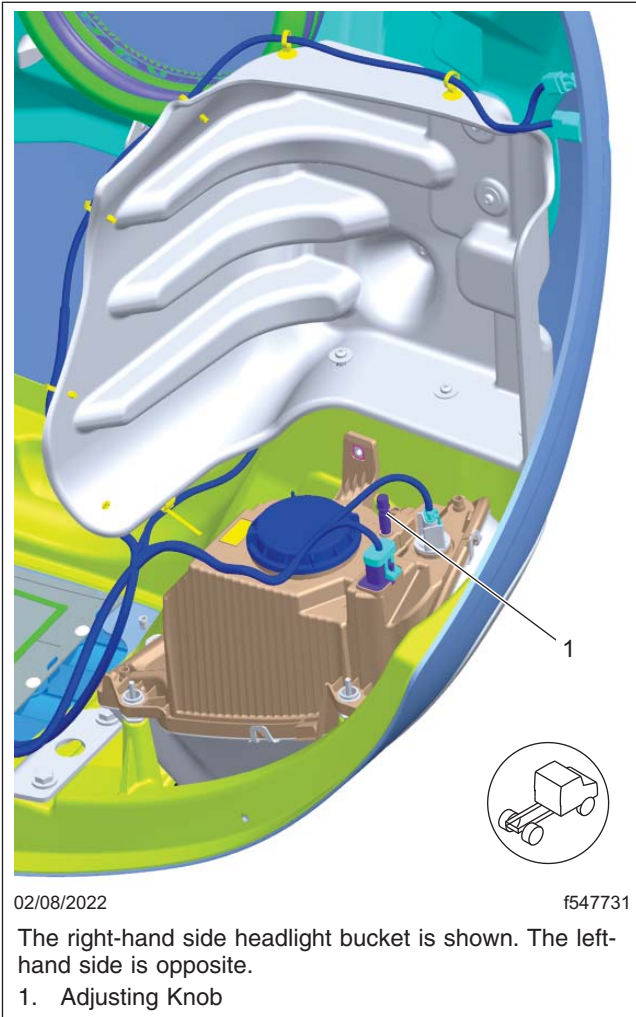

Fig. 18.4, Headlight Adjusting Knob
1. Lift up the splash shield to expose the adjusting knob shown in Fig. 18.4.